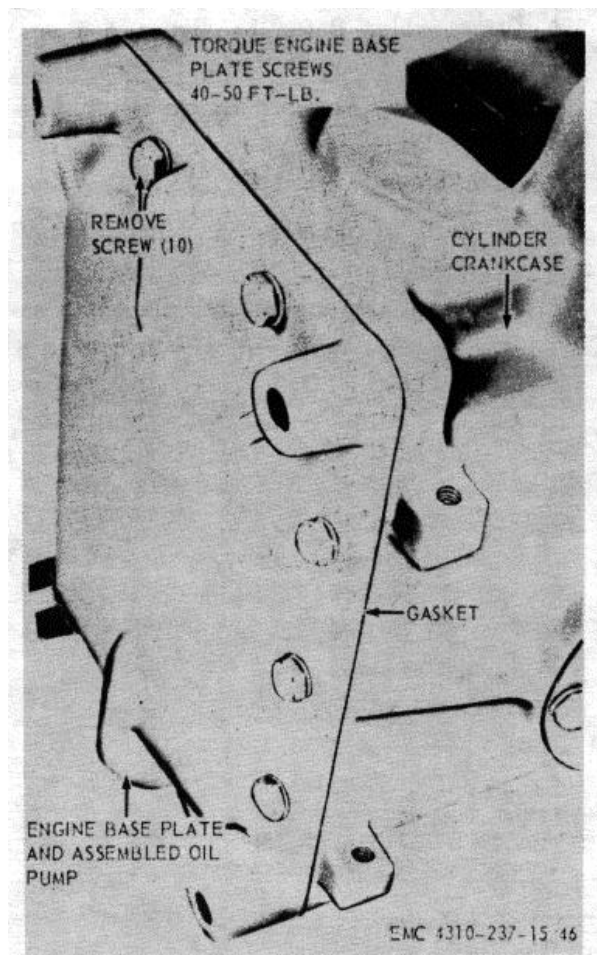

Figure 5-2. Engine base plate and assembled oil pump, removal and installation
- (1) Drain the oil from the engine crankcase.
- (2) Remove the oil from the engine air cleaner (para 3-40).
- (3) Remove the engine (para 4-19).
- (4) Refer to figure 5-2 and turn the engine on its side and remove the engine base plate and assembled oil pump.
- (1) Refer to figure 5-2 and install the engine base plate and assembled oil pump.
- (2) Install the engine (para 4-19).
- (3) Service the engine air cleaner (para 3-40).
- (4) Refer to the current lubrication order and fill the engine crankcase.